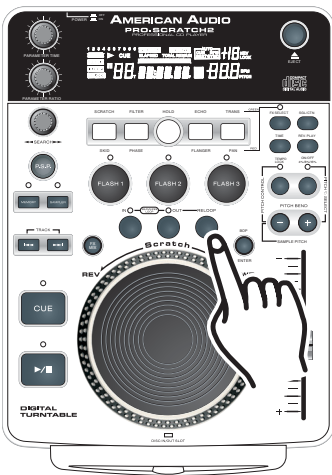

Figure 23
Please note: Only the ending point of the loop may be edited. You may make your loop shorter or longer. Before you can edit your seamless loop you obviously must first have created a seamless loop to edit. If you haven't created a SEAMLESS LOOP, follow the instructions in step 10 to create a loop. If a SEAMLESS LOOP has already been created, press the *RELOOP BUTTON* (31) to activate your SEAMLESS LOOP (Figure 23) if it is not already activated. To edit your seamless loop's ending point: